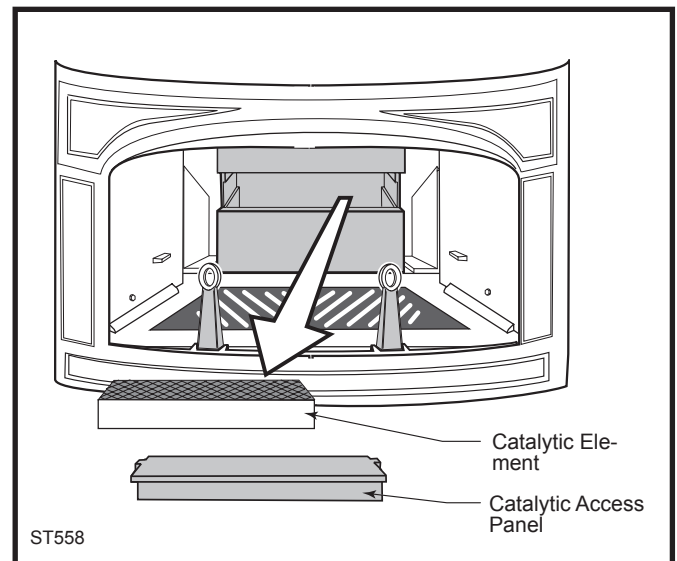

Fig. 45 Remove and inspect the catalytic element.
3. Carefully remove the catalytic combustor's refractory access cover, then remove the combustor. The refractory material is brittle; handle it carefully. (Fig. 45)